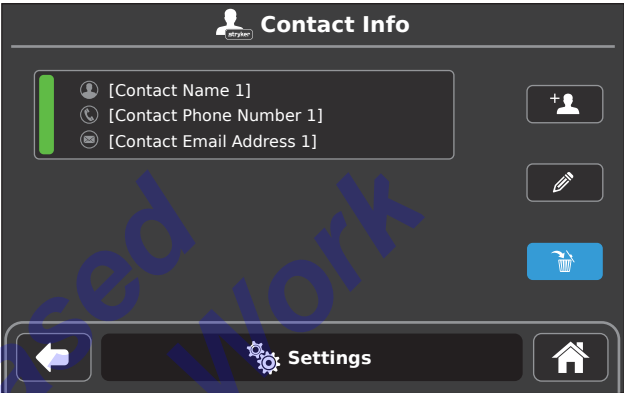

Figure 38 – Delete CONTACT INFO Information
- From the CONTACT INFO screen, touch and select the desired contact information to delete (Figure 38).